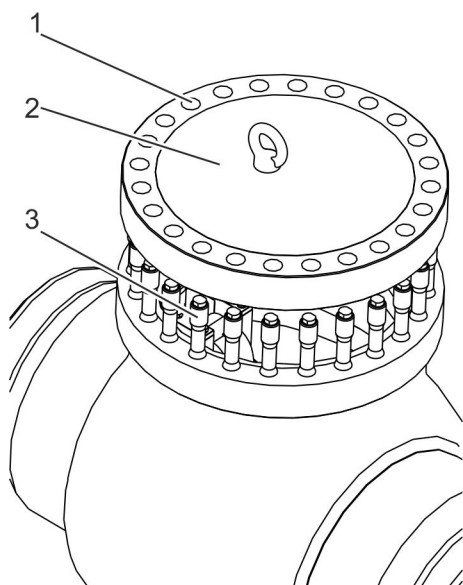

Fig. 22: Attaching the body cover
9. ➤ Lift the body cover (Fig. 22/2) with a hoist over the body.
10. ➤ Make sure that the holes (Fig. 22/1) in the body cover are aligned with the stud bolts (Fig. 22/3) in the body.
Lower the body cover (Fig. 22/2) slowly with a hoist on to the stud bolts in the body.